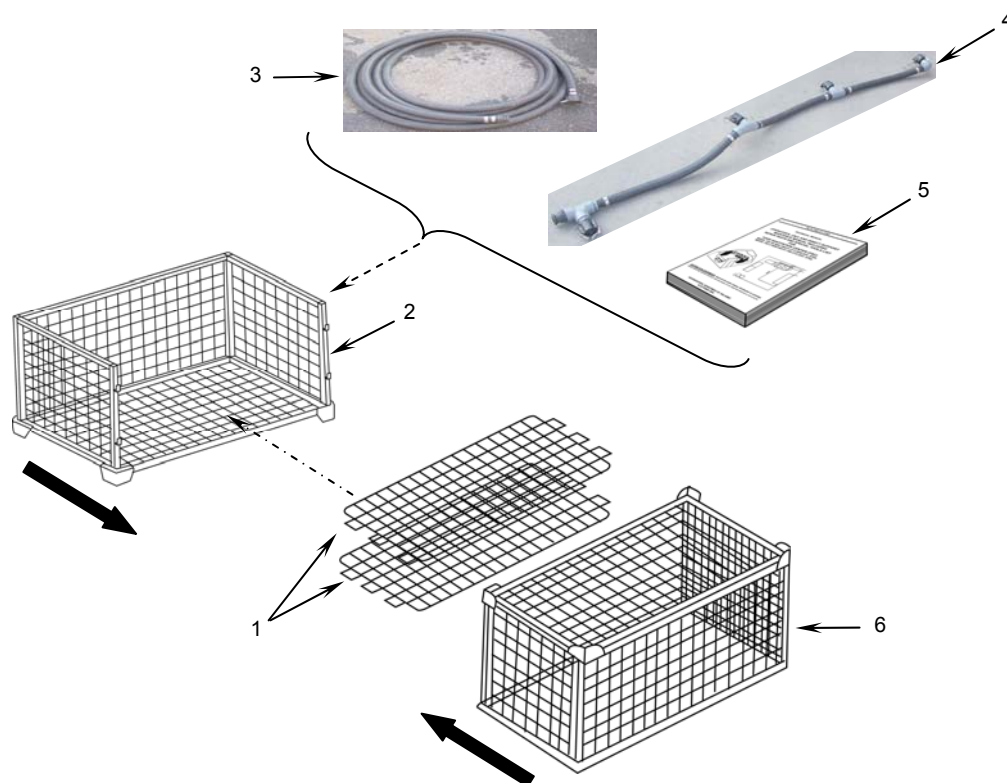

Figure 47. Packing Third Storage Rack Assembly.
- a. Place two shelves (**Figure 47, Item 1**) into the bottom of an empty storage rack assembly (**Figure 47, Item 2**).
- b. Coil and place the 50-ft drain hose (**Figure 47, Item 3**) into the storage rack assembly.
- c. Coil and place the sink drain hose assembly (**Figure 47, Item 4**) into the storage rack assembly.
- d. Place the FSC technical manual (**Figure 47, Item 5**) in a plastic bag and place in storage rack with hoses.
- e. Using a two-person lift (one person on each end), carefully turn an empty storage rack (**Figure 47, Item 6**) upside down and position it so that its empty side faces the empty side of the just-packed storage rack.